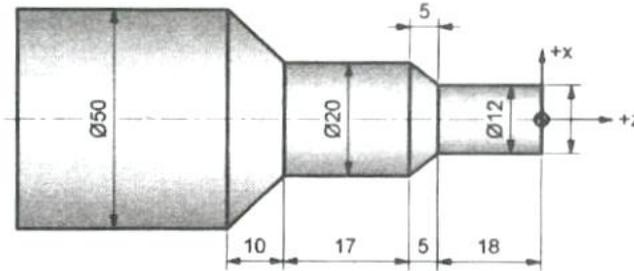

Figure 1
Q.4 (a) Write a manual part program for finishing the component as shown in Figure 1. Assume spindle speed 600 rpm and feed rate as 0.5 mm/rev. **05 A 4**